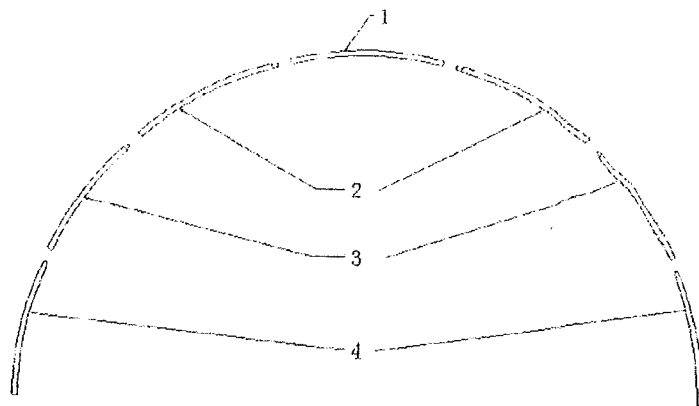
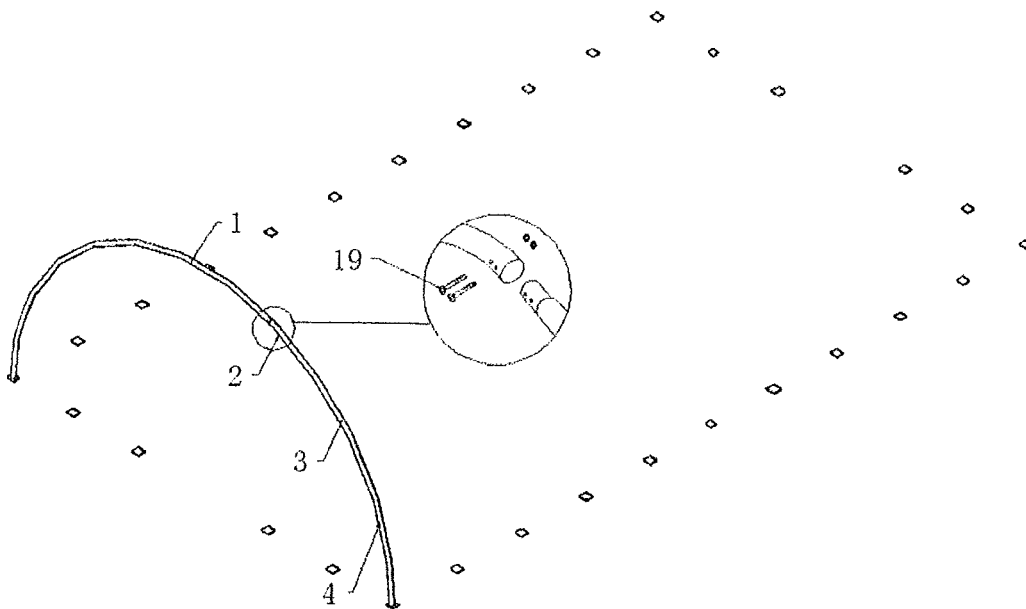

Figure 3
Figure 4
1. (Part No. 1*1+No.2*2+No.3*2+No.4*2) As **Figure 3** and **Figure 4** shown to find one piece of Roof bent tube (No.1), two pieces of Upper bent tube for front and rear door(No. 2A), two pieces of Sidewall tube(No.3), two pieces of Lower bent tube (No. 4) . Connect them by using Bolt M10x100 (No. 19), which makes the first group of front door arch frame.Put the first group of arch frame into the base plates like the **Figure 4** shows.